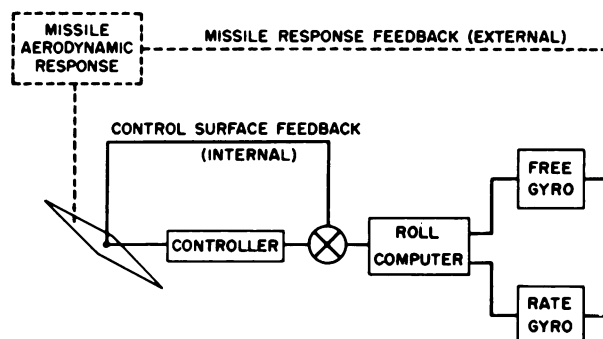

Figure 4B.—Roll control network.
Information for items 10 through 13: Assume that you have been assigned to work on a certain missile and that you are studying its roll control system in order to fully understand how it works. A block diagram of the roll control system in this missile is shown in figure 4B.